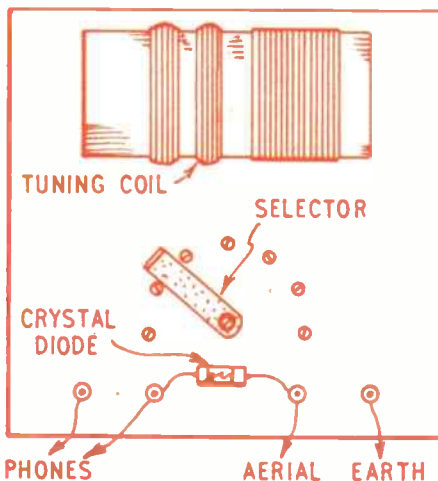

Fig. 1—Top wiring
To assemble the cradle, glue the sides (2) and slats (3) in position on one end (1), and then glue the other end in place. The relevant positions of the pieces when gluing together are shown in Fig. 1.
Four holes are drilled about ¼ in. from the front edge, for aerial, earth and phone terminals, as shown in Fig. 1. The position of the selector arm pivot bolt is then marked, and seven other holes are drilled in a 1½ ins. radius from here. Eight further small holes are then drilled in the position the coil will occupy, for the tappings.
The crystal diode is connected between aerial and phone terminals as indicated in Fig. 1. It is worth using a new detector, as the receiver cannot
If a coil for both M.W. and L.W. is required, thinner wire will be required, so that enough turns can be accommodated. The M.W. section already described occupies one end of the former, as in Fig. 1. Towards the other end, the
long wave windings are placed, turns wound in compact piles. Each pile will require about 120 turns, and two piles are necessary, as shown in Fig. 1. There will thus be 360 turns in all (including the 120 on the M.W. section). Tappings are made at the following numbers of turns:—55, 65, 80, 100, 120, for M.W., and 260, 300, and 360 turns, for L.W.
Aerial, earth and phone leads are connected up as shown in Fig. 1. An out-door aerial is best, as high as can be arranged, well insulated at suspension points, and clear of walls, roof, and other earthed objects. However, in many
Put about 100 c.c. of milk in a separating funnel (Fig. 1) and let it stand overnight undisturbed. The cream rises to the surface and the milk beneath may be separated from it by opening the tap and closing it again when the decreased milk has not quite all run through. Add dilute acetic acid to the decreased milk until you have curds suspended in a clear liquid (whey). Filter off the curd through fine cotton and evaporate the filtrate to dryness on the water-bath. The remaining solid is crude lactose.